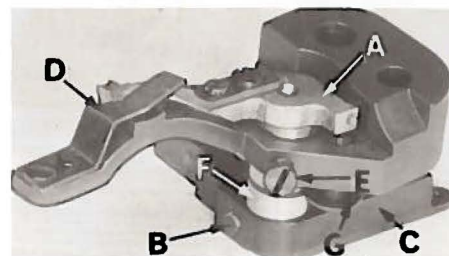

Fig. 29
1. There should be no bind or shake in lower knife pivot carrier (A, Fig. 29). This adjustment can be made by loosening screw (B) on the pivot release lever (C) and taking up the excessive end play or relieving the bind as the case may be.
Adjust lower knife until it just contacts the upper knife. To adjust the lower knife turn flange screw (G, Fig. 29) clockwise to lower knife and counterclockwise to raise it.